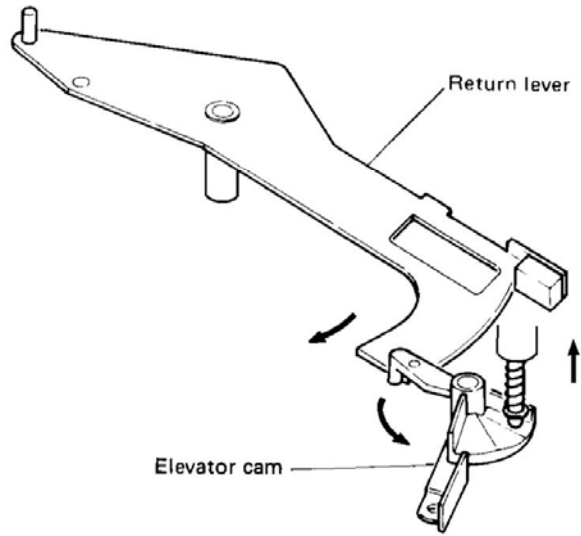

Fig. 5
- When the main gear starts to rotate at the end of playing, the return lever rotates under the action of the main gear cam to press the elevator cam. The upward movement of the elevator cam is directly converted into movement of the elevator, lifting up the tonearm. (Fig. 5)